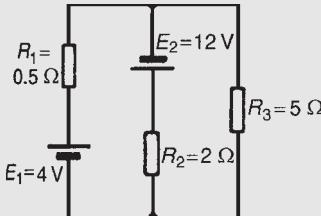

Figure 13.7
**Problem 3.** Determine, using Kirchhoff's laws, each branch current for the network shown in Fig. 13.7